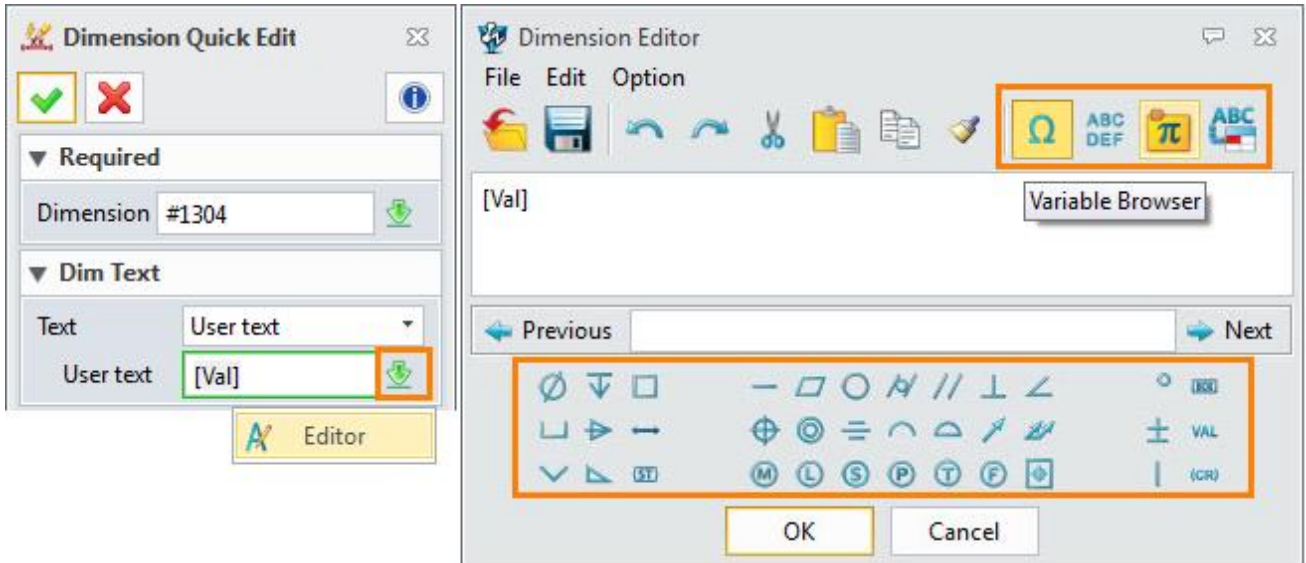

Figure69 Dimension Editor
**Method2:** Right-click the dimension, then select “Modify Text” command. At the same time, the dimension editor form will automatically pop up, as shown in Figure 69.